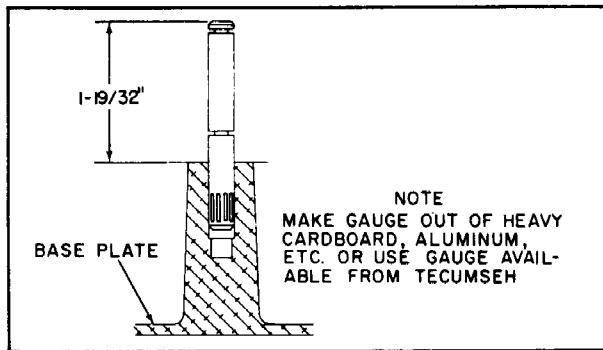
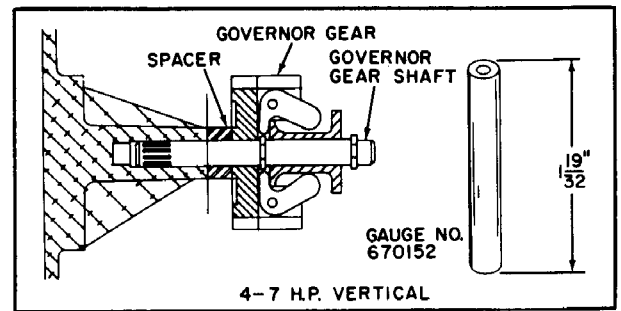

Figure 5-5
Figure 5-6
2. Place the unit into a vise or press and slowly press in on shaft to dimension shown (Figure 5-5) or use applicable gauge (Figure 5-6).